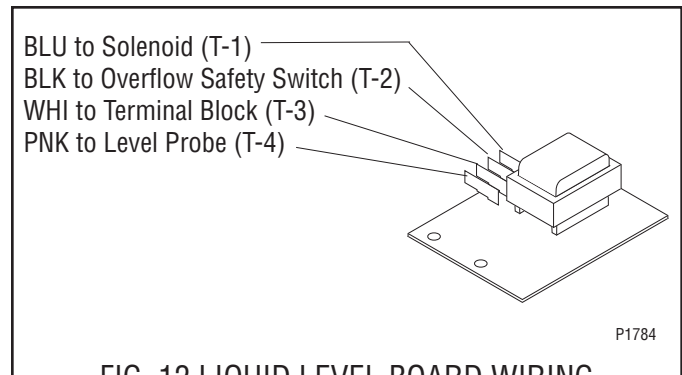

FIG. 12 LIQUID LEVEL BOARD WIRING
4. Refer to FIG. 12 when reconnecting the wires.